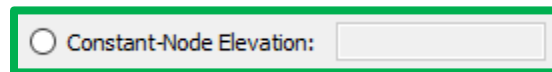

Figure 6.10. Assign constant elevation to selected nodes
- Change the elevation of the selected nodes, as shown in Figure 6.10.